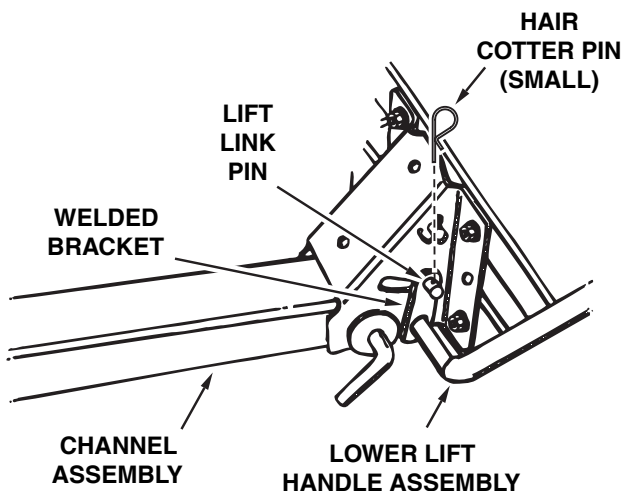

Figure 4
- Insert the end of the lower lift handle assembly through the notch in the pivot support bracket and through the holes in the channel assembly. Align the lift link pin with the hole in the welded bracket on the lower lift handle assembly. Insert the lift link pin through the hole in the bracket and secure it with a small hair cotter pin. See figure 4.